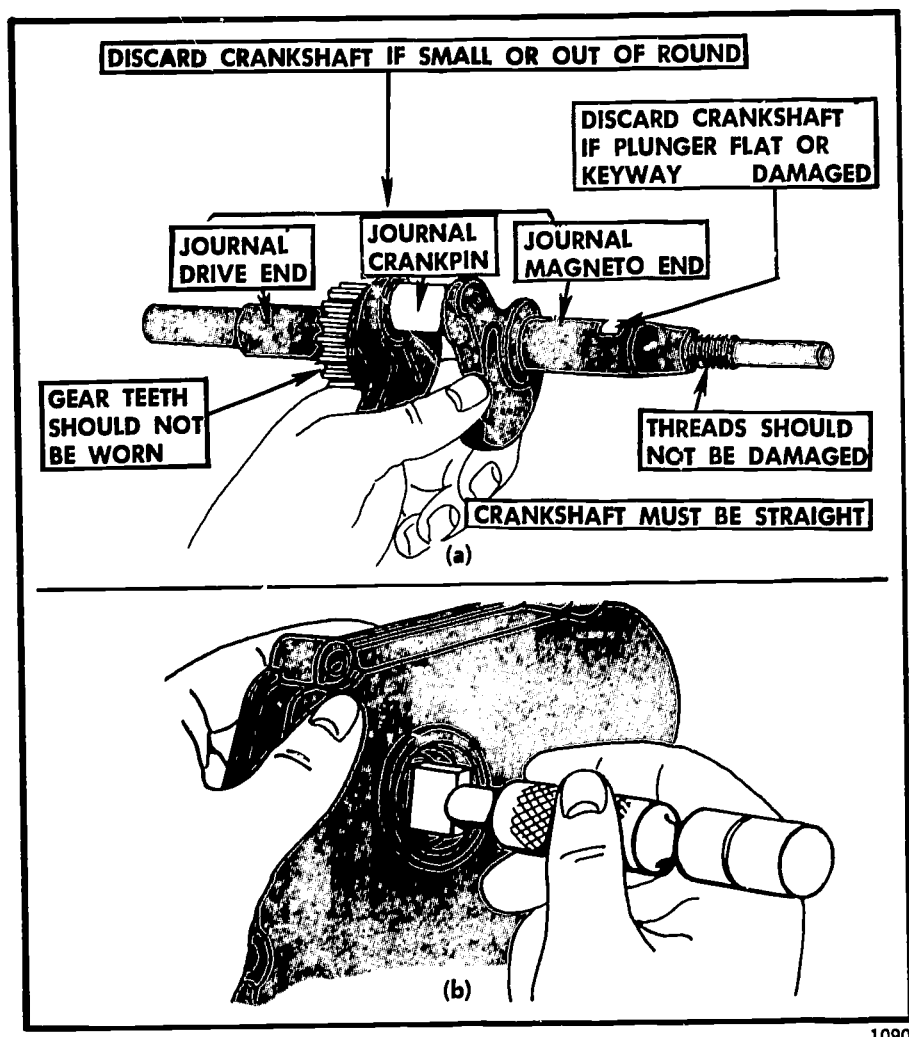

FIGURE 308. (a) Measuring the diameter, of the journals. Compare them with tolerances given in your repair manual. (b) Checking bearing with "go, no-go" gage.
2. Check for wear (Figure 308).